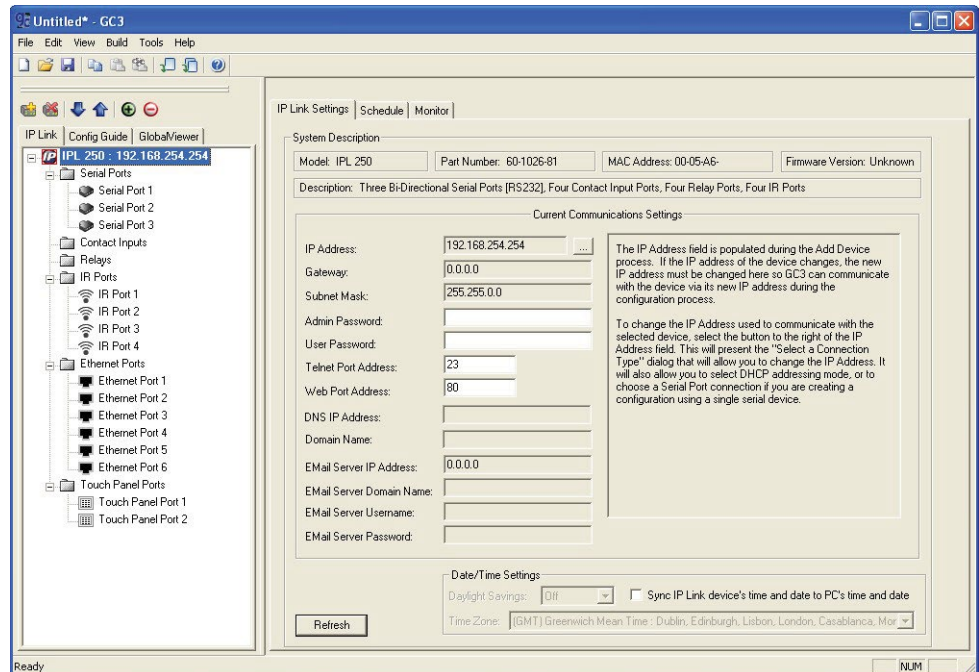

Figure 36. Configuring an IP Link Device
- b. Select the IP Link device from the drop-down menu. In figure 36, above, an IPL 250 controller is added. Adding a different IP Link product is similar.